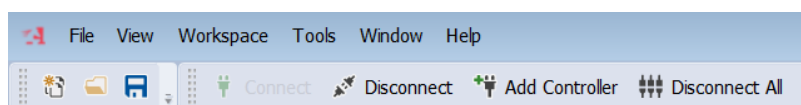
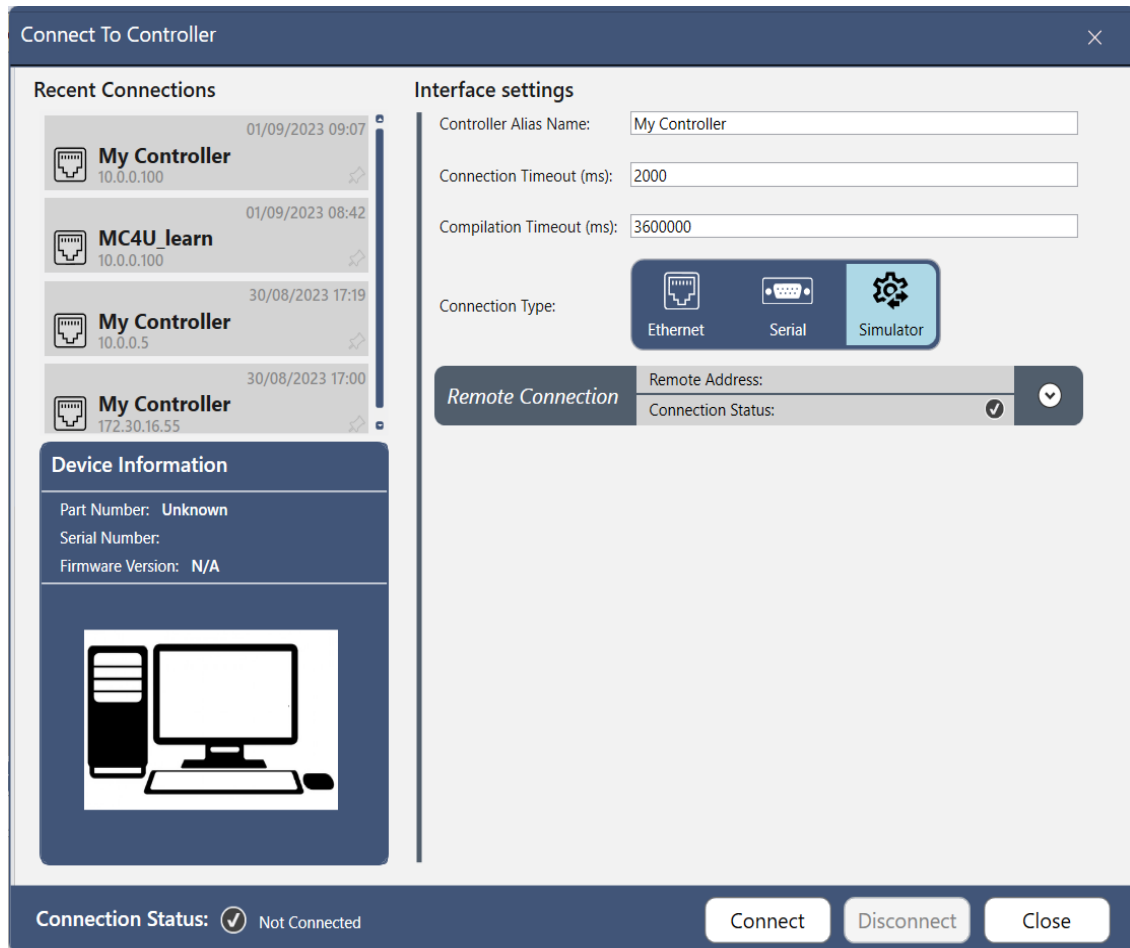

Figure 4-2. Add Controller
Figure 4-3. Connect to Controller Window
4. At the top of the window, select **Add Controller** (see Figure 4-2). This opens the **Connect to Controller** window (see Figure 4-3).